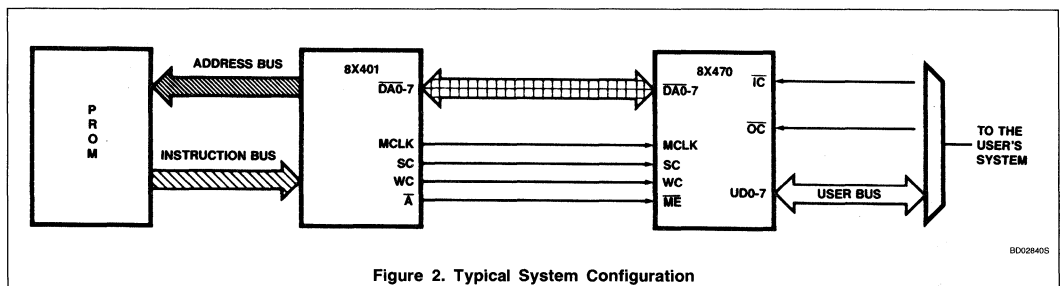

Figure 2. Typical System Configuration
In a typical system configuration (Figure 2), the 8X470 connects to the 8X401 Microcontroller via the Data/Address ( $\overline{DA}$ ) bus; the 8X470 is linked to the user system via the User Data (UD) bus. To facilitate interbus communications and to implement handshaking operations, a dedicated status register is assigned to each bus. The status registers can be polled at full speed to optimize throughput and to prevent errors in data transmissions. The 8X470 can be addressed from the  $\overline{DA}$  bus in either of two ways — by the conventional microcontroller software-select cycle or by fast select methods.